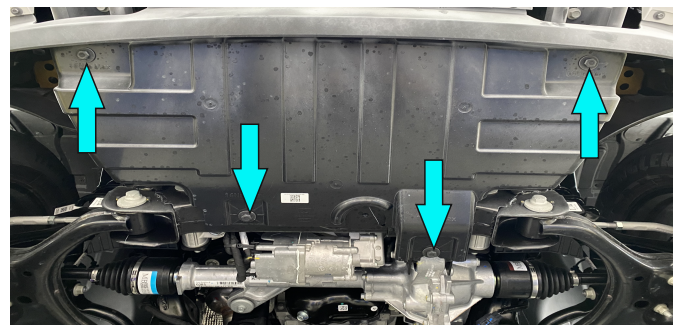

Fig.10
10. Install OE plate and fix it using OE hardware (fig.10).